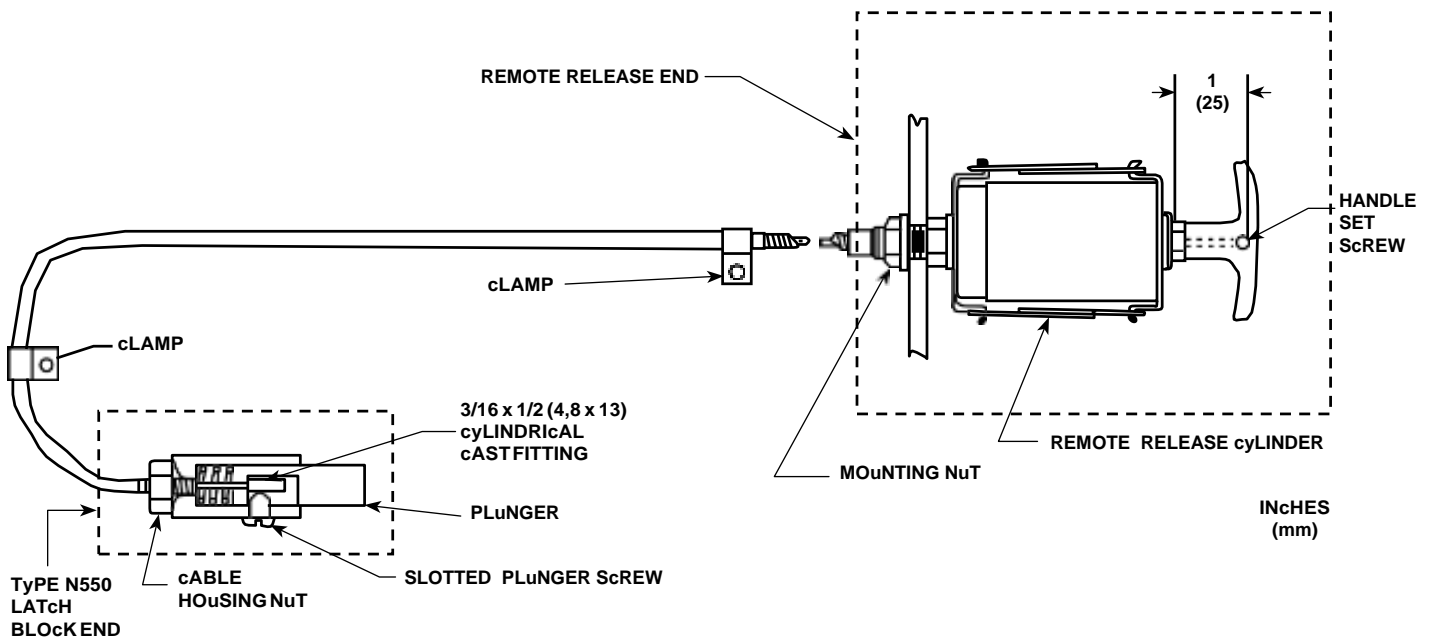

Figure 3. Type P164B Cable Release Installation Schematic
2. If it is necessary to cut the cable to a shorter length, pull about one foot of inner cable from the Type N550 latch block cable end (end with the 3/16 by 1/2-inches (4,8 by 13 mm) long cylindrical cast fitting, see Figure 3) from the housing.
5. Loosen the slotted screw, Figure 3, on the Type N550 valve's latch block until the plunger can be pulled from the latch block.